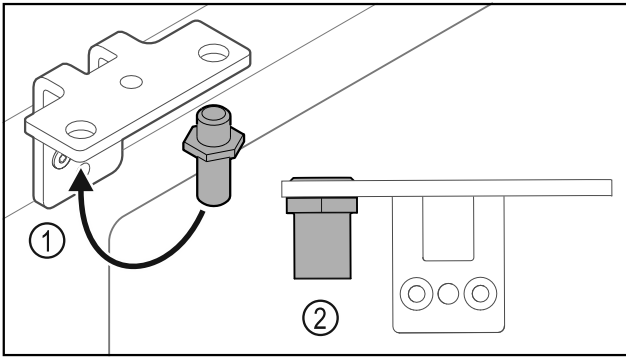

Fig. 32
- ▶ Put the pin back into the hinge Fig. 32 (1).
- ▶ Tighten the pin Fig. 32 (2) to a **torque of 12 Nm (9 ft-lb)**.